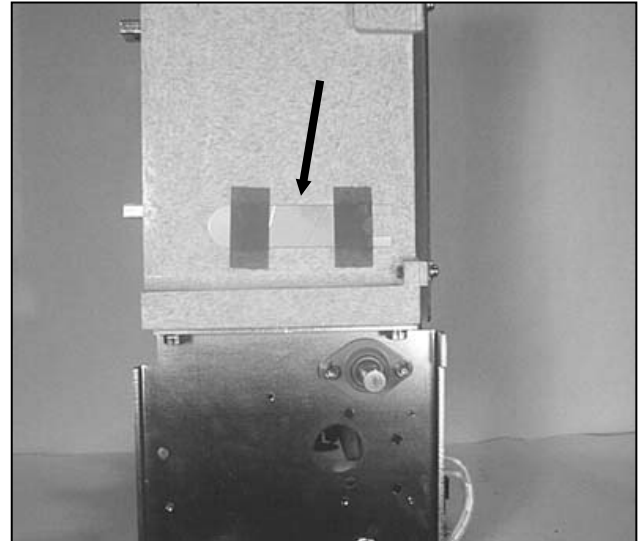

Figure 2 - Location of the Wear Gauge
- Contactor wear gauge (Figure 2).